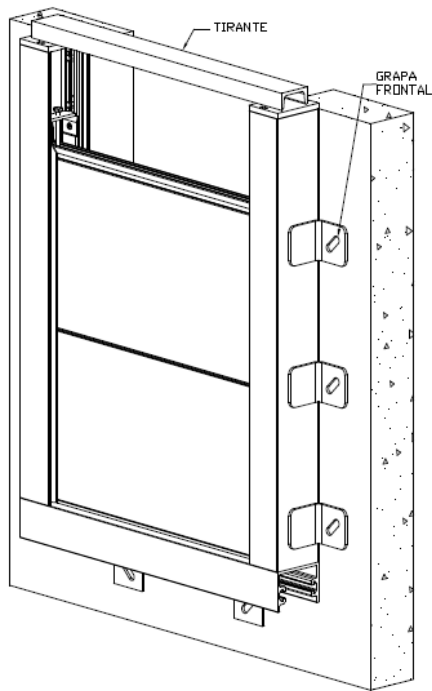

Figure 12
- Present the unit to its required position and ensure that the invert of the frame is flush with the civils. Also make sure that the equipment is centered with respect to the channel opening (See Figure 12).